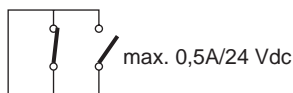

Fig. 15
- 5. **Electric lock - N.C. contact (max. capacity 0.5 A/24 V) (fig. 15).** The output is suitable for commanding a magnetic closure system. If no power is supplied, the electric lock is not active. In the NIGHT function the electric lock is powered and hence active. In the event of an opening command (internal command or EMERGENCY OPENING), the power supply to the electric lock is temporarily cut off to allow the door to be opened.